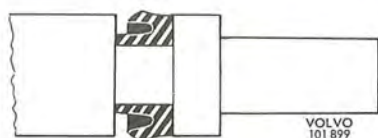

Fig. 5-60. Piston seal
- Inspect the parts. If the cylinder surfaces are scratched or damaged by rust, the valve should be replaced complete. However, if the cylinder surfaces are not damaged, replace only the piston complete. When doing so, check that the seal is facing in the direction shown in the Fig. 5-60.
- Fit the piston (21) complete after having coated it with a brake fluid or a light layer of brake paste. Screw in the plug (1) together with the sealing ring (2). The tightening torque is 10—12 kgm (70—85 lb.ft.).